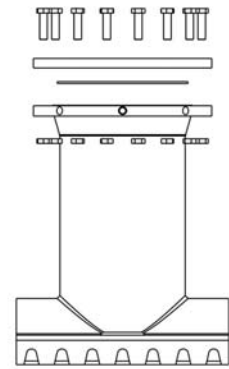

Figure 2
- 2) Unbolt and remove the top flange of the valve body and store the o-ring, nuts and bolts in a place they will be free from debris (see figure 2).